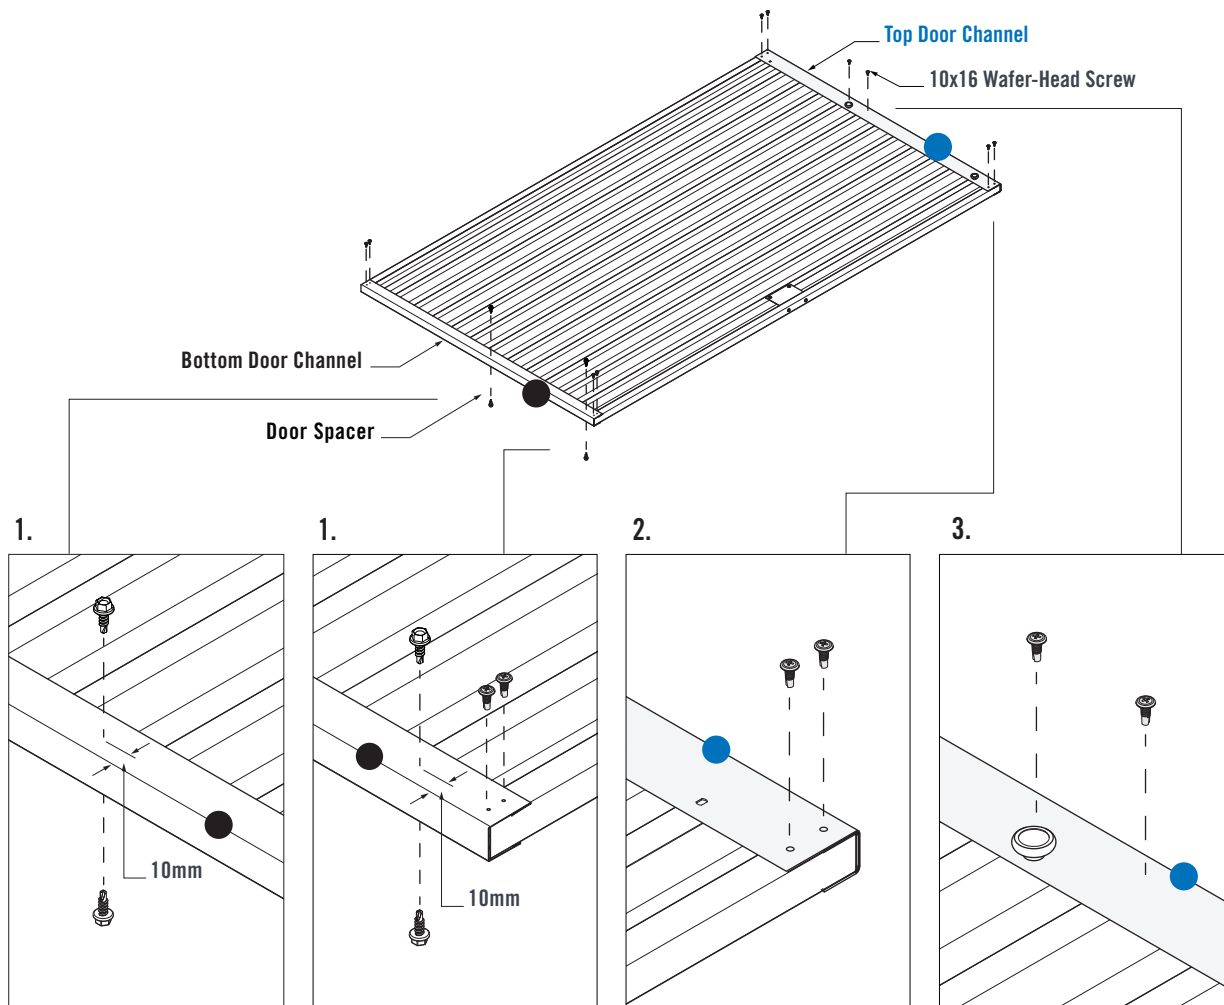

FIGURE 7.6
1. Fasten a 10x16 Hex-Head Screw into the mid-point of the Bottom Door Channel. Ensure the screw is fastened approximately 10mm from the bottom face of the Channel. Fasten a 10x16 Hex-Head Screw near the Handle Mount end of the Bottom Door Channel. Flip over the Door Assembly so that the underside is now facing up. Fasten two more 10x16 Hex-Head Screws in the same manner on the opposite side of the Bottom Door Channel (Figure 7.6).
2. Fasten two 10x16 Wafer-Head Screws through pilot holes in the Top and Bottom Door Channels and into the Vertical Door Channels at all four corners (Figure 7.6).
3. Fasten a 10x16 Wafer-Head Screw through the Top Door Channel and into the two Sheet Crests on both sides of the Door Wheel. (Figure 7.6).